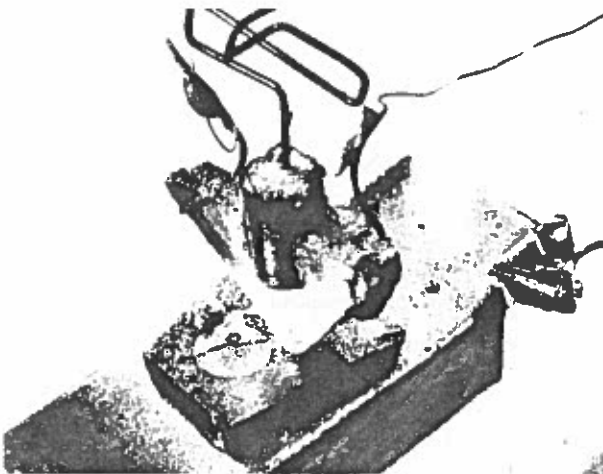

FIGURE 14-21 The first transistor.
The *bipolar junction transistor* (BJT) consists of three semiconductor layers of alternating types, either n - p - n or p - n - p . Transistors are capable of power amplification and as such have many uses. The transistor was invented in 1948 by John Bardeen, Walter H. Brattain, and William Shockley (see Figure 14-21).
25. Draw an energy level diagram similar to Figure 14-21 for a $p-n-p$ transistor that is (a) unbiased and (b) biased for operation as an amplifier.
26. The conductivity of a sample of germanium is measured to be $2 \Omega^{-1} \cdot \text{m}^{-1}$ at room temperature. Give an expression for the conductivity as a function of temperature (T) for $T > 300 \text{ K}$. What is the conductivity at $T = 1000 \text{ K}$?